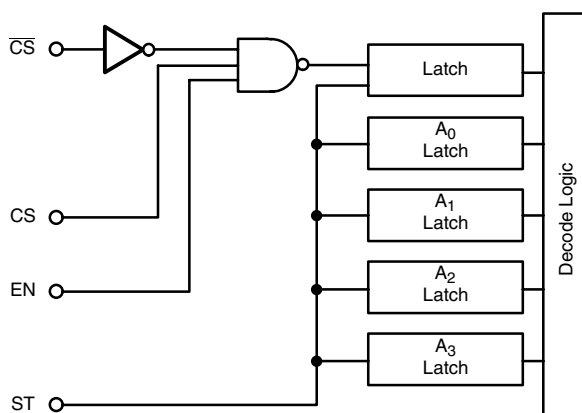

Figure 11. $\overline{CS}$, CS, EN, ST Control Logic
All four address inputs have on-chip data latches which are controlled by the Strobe (ST) input. These latches are transparent when Strobe is high but they maintain the chosen address when Strobe goes low. To facilitate easy microprocessor control in large matrices a choice of three independent logic inputs (EN, CS and $\overline{CS}$) are provided on chip. These inputs are gated together (see Figure 11) and only when $EN = CS = 1$ and $\overline{CS} = 0$ can an output switch be selected. This necessary logic condition is then latched-in when Strobe (ST) goes low.